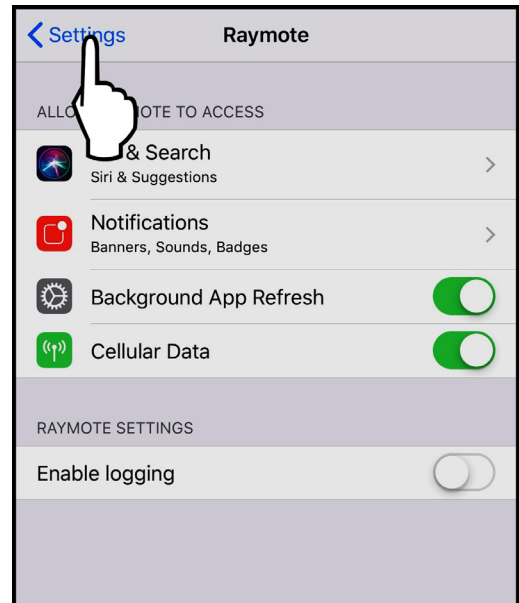

Figure 95. Select the Settings Menu
- On the top left corner of the screen, press the "Setting" button to go the Setting menu. See **Figure 95**.